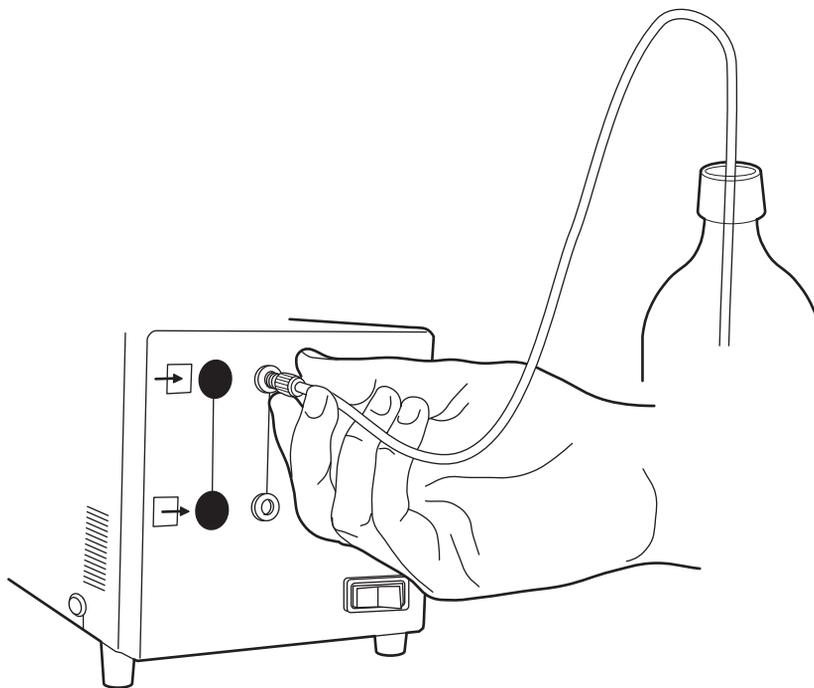

Figure 3-3 Connecting an Inlet Line to the In-Line Degasser AF
4. Insert the other end of the tubing into the cap of the eluent reservoir, as shown in Figure 3-3.